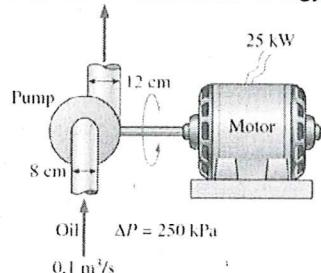

Figure 2
- An oil pump is drawing 25kW of electric power while pumping oil with $\rho = 860 \text{ kg/m}^3$ at a rate of 0.1 m³/s. The inlet and outlet diameters of the pipe are 8 cm and 12 cm respectively (fig. 2). If the pressure rise of the oil in the pump is measured to be 250 kPa and the motor efficiency is 90%, determine the mechanical efficiency of the pump. Take the kinetic energy correction factor to be 1.05.